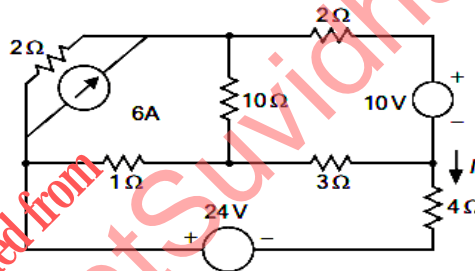

Figure: 1
- 2.a) Determine the current I in 4 ohm resistance for the following circuit (figure 1).